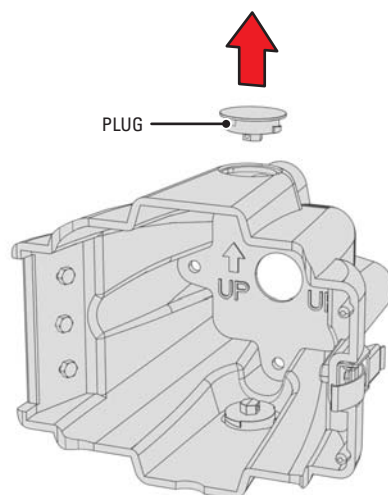

Figure 11. Removing an Auxiliary Opening Plug
5. *If using an auxiliary opening for cables:* Remove the plug from the appropriate opening in the J-box (refer to Figure 11). Use a 7/16-inch wrench.